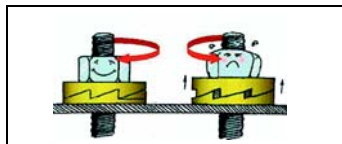

Fig. 26
4. Pull the NORD-LOCK wedge lock washer **904.2** and supporting disc **064.2** onto the socket screw **915.7** and grease the thread. **Notice:** Ensure that the NORD-LOCK wedge lock washers are positioned correctly (wedge surface to wedge surface), see Fig. 26, page 36.